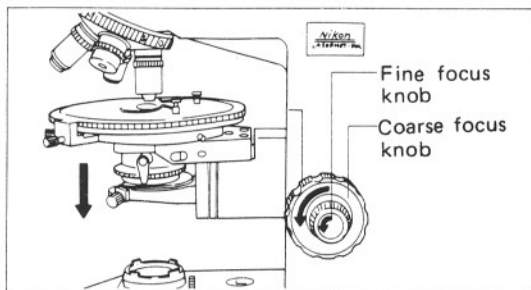

Fig. 14
- The relation between the direction of rotation of the focus knobs and that of vertical movement of the stage is as indicated in Fig. 14.